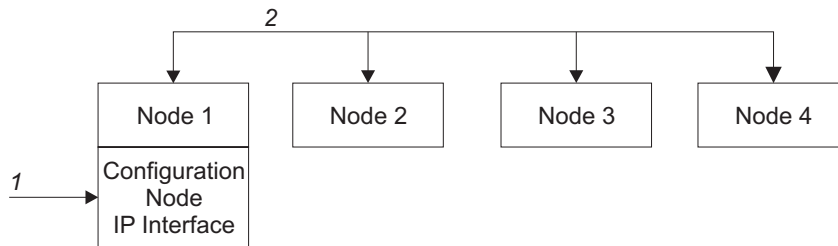

Figure 5. Configuration node
Figure 5 shows an example cluster containing four nodes. Node 1 has been designated the configuration node. User requests (1) are targeted at Node 1. This can cause requests that are targeted at the other nodes in the cluster to have their data returned to Node 1.